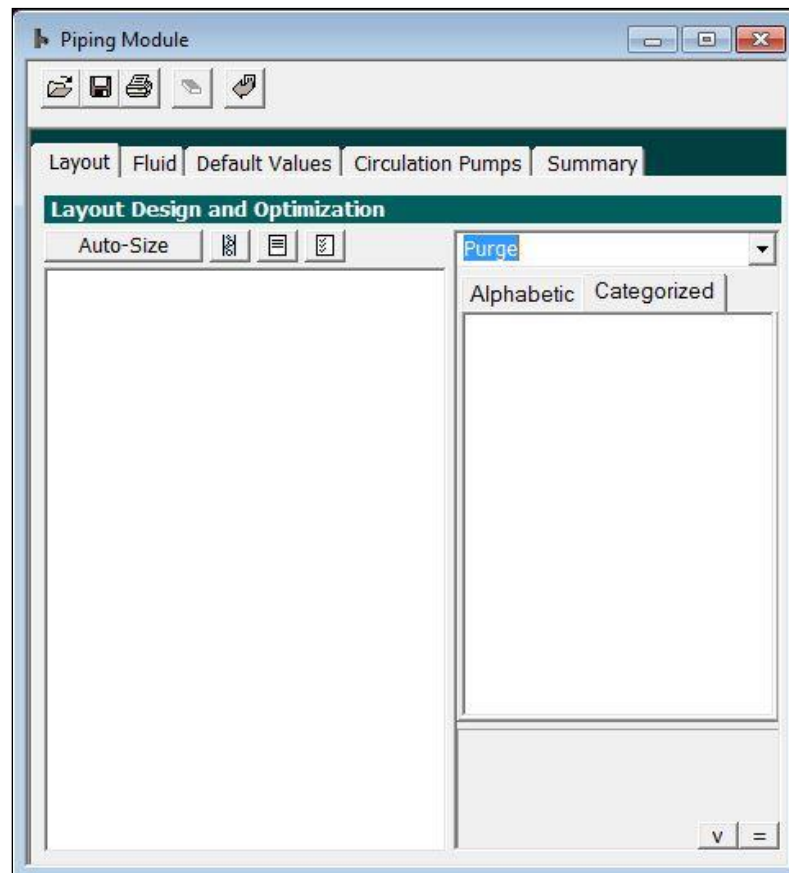
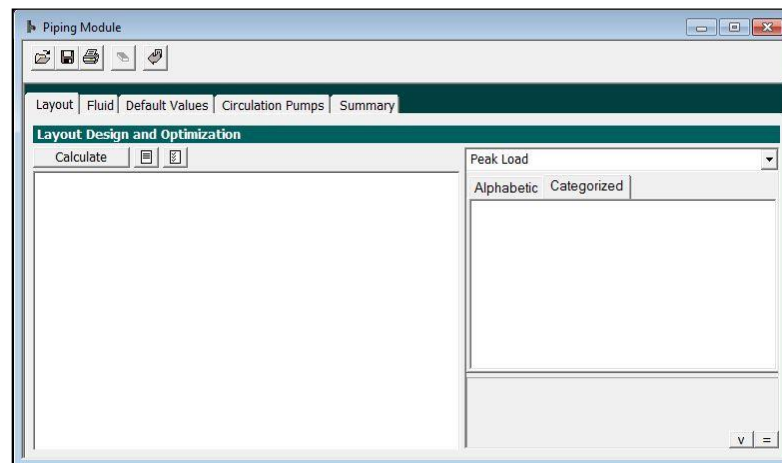

Fig. 11.37 Layout Panel Contents In Purge Mode
Fig. 11.41 An Expanded Layout Screen Provides More Room to Work
The *Layout* panel is the heart of the CFD module. This is the panel in which the designer builds piping systems, explores their fluid dynamics implications and then modifies the design manually or automatically as necessary. The *Layout* panel can be seen in figure 11.37.
The left side section of the *Layout* panel is the Layout Manager Workspace as can be seen in figure 11.41. The Layout Manager Workspace is the area in which the designer builds, modifies and reviews piping systems. The Layout Manager Workspace is in many ways the heart of the enter CFD module. Consequently, it provides the user with significant flexibility and customization. These customization features will now be introduced.
1) The designer can adjust the size of the entire CFD module in one of two ways. First, the designer can maximize the module by hitting the maximize button in the upper right corner of the CFD module. Second, the designer can move the mouse cursor to one of the edges of the CFD module and then click-hold-drag to expand the CFD module. An expanded CFD module can be seen in figure 11.41. Compare this to figure 11.37.